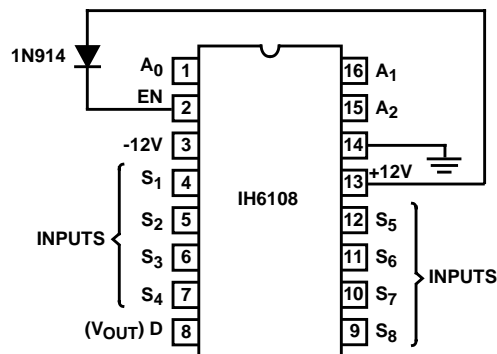

FIGURE 6. IH6108 CONNECTION DIAGRAM FOR LESS THAN ±15V SUPPLY OPERATION
Caution must be taken to ensure that the enable (EN) voltage is at least 0.7V below  $V_+$  at all times. If this is not done, the Address input strobing levels will not function properly. This may be achieved quite simply by connecting EN (pin 2) to  $V_+$  (pin 13) via a silicon diode as shown in Figure 6. When using this type of configuration, a further requirement must be met: the strobe levels of A0 and A1 must be within 2.5V of the EN voltage in order to define a binary “1” state. For the case shown in Figure 6 the EN voltage is 11.3V which means that logic high at A0 and A1 is +8.8V (logic low continues to be 0.8V). In this configuration the IH6108 cannot be driven by TTL (+5V) or CMOS (+5V) logic. It can be driven by TTL open collector logic or CMOS logic with +12V supplies.